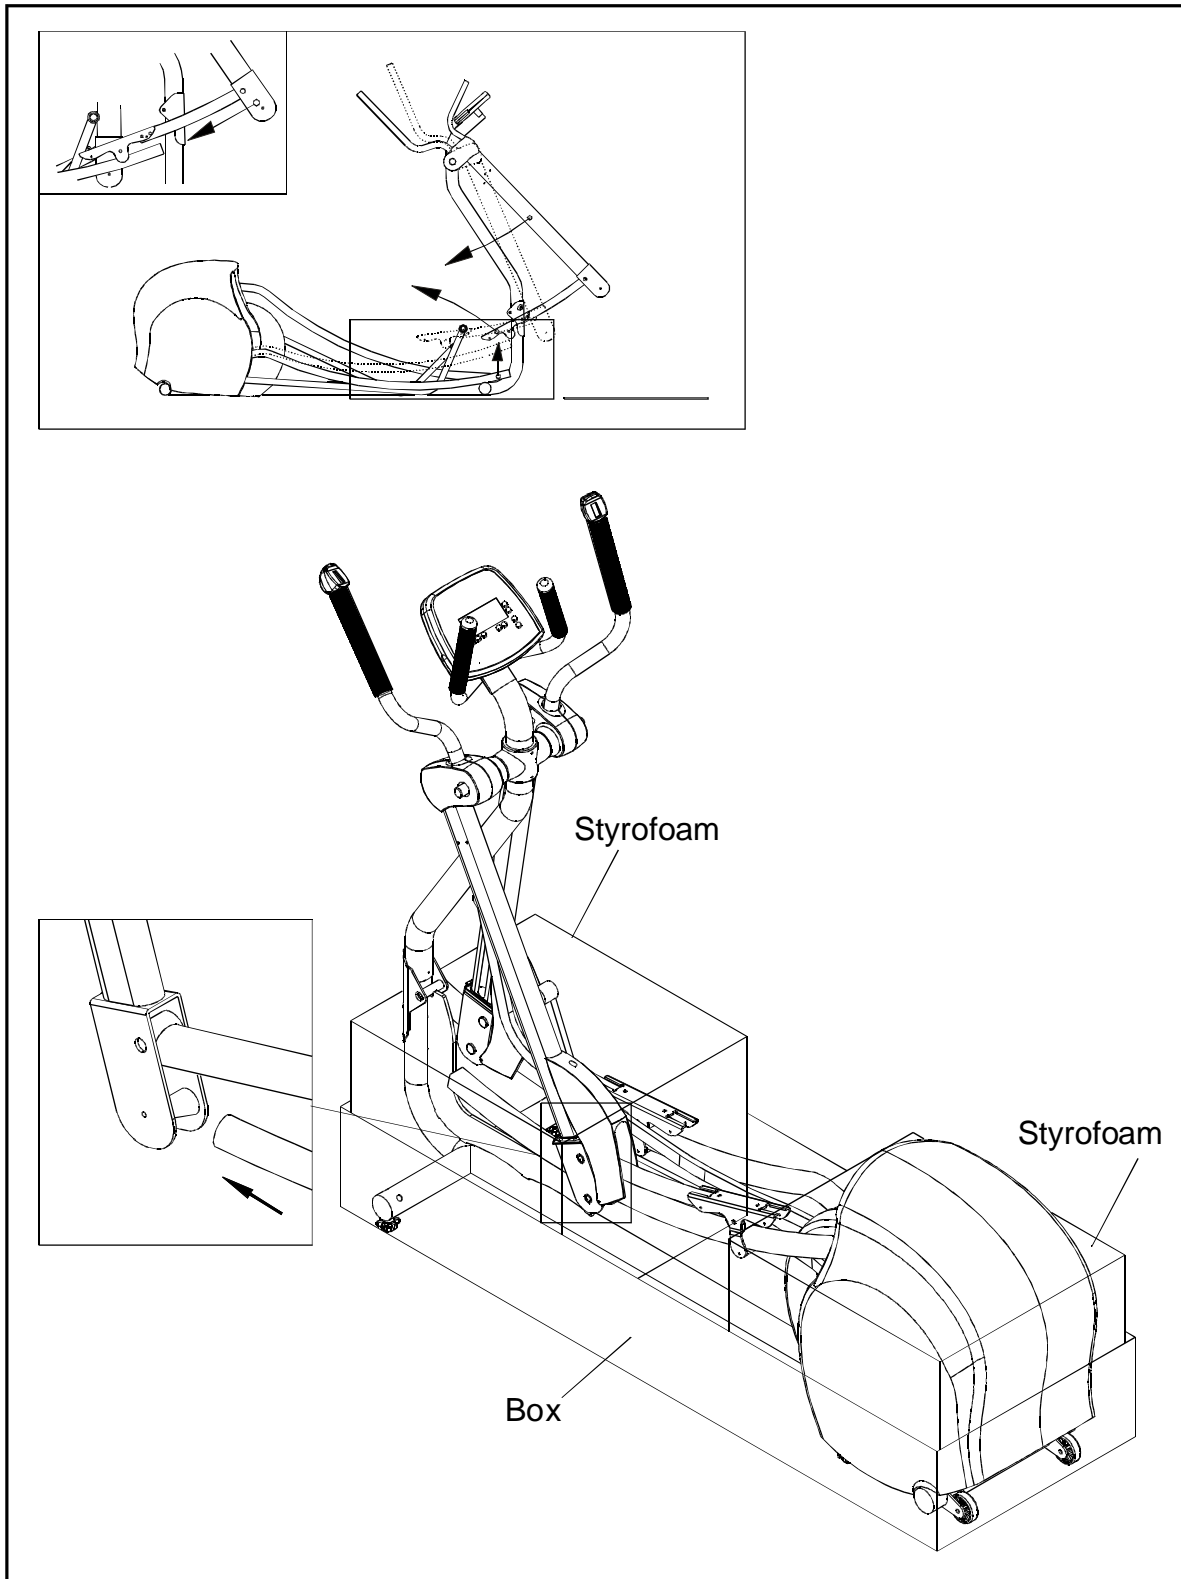

Fig.3
4. Place the glide rail over the rocking bar roller. (see Fig.3)